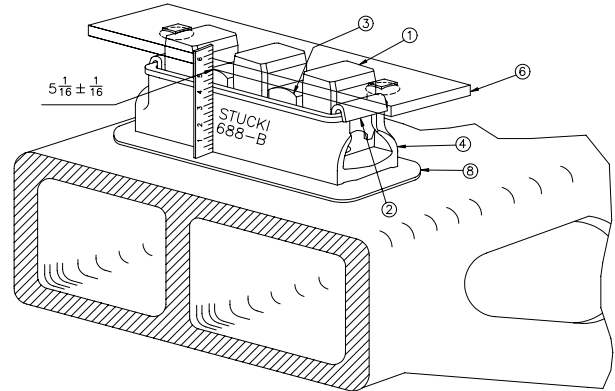

Figure 3. Set-Up Height Measurement
Vertical space between the car body side bearing wear plate ⑥ (or wedge) and the truck bolster surface to which the side bearing cage is mounted must be $5\text{-}1/16" \pm 1/16"$, measured as illustrated in Figure 3.
The 688-BR side bearing cage ④ (see Figure 3) must be free of flaws or cracks and must be securely fastened to the truck bolster. Please refer to A. Stucki Company's roller side bearing installation instructions for cage fastener recommendations.